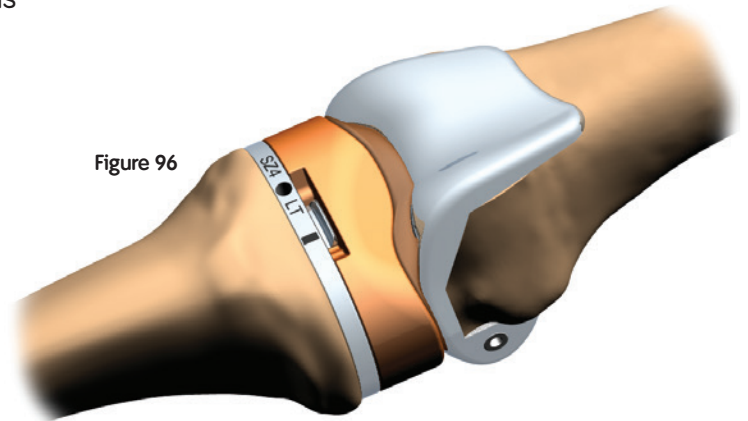

Figure 96
3. Place the correct size Guided Motion Tibial Insert Trial into the Tibial Baseplate and extend the leg to pressurize the cement (Figure 96).